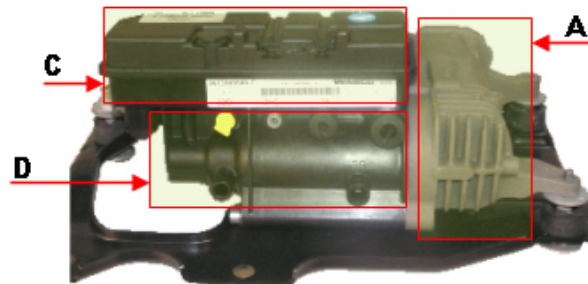

Fig. 2
- section (D): dehumidifier unit (Fig. 2)